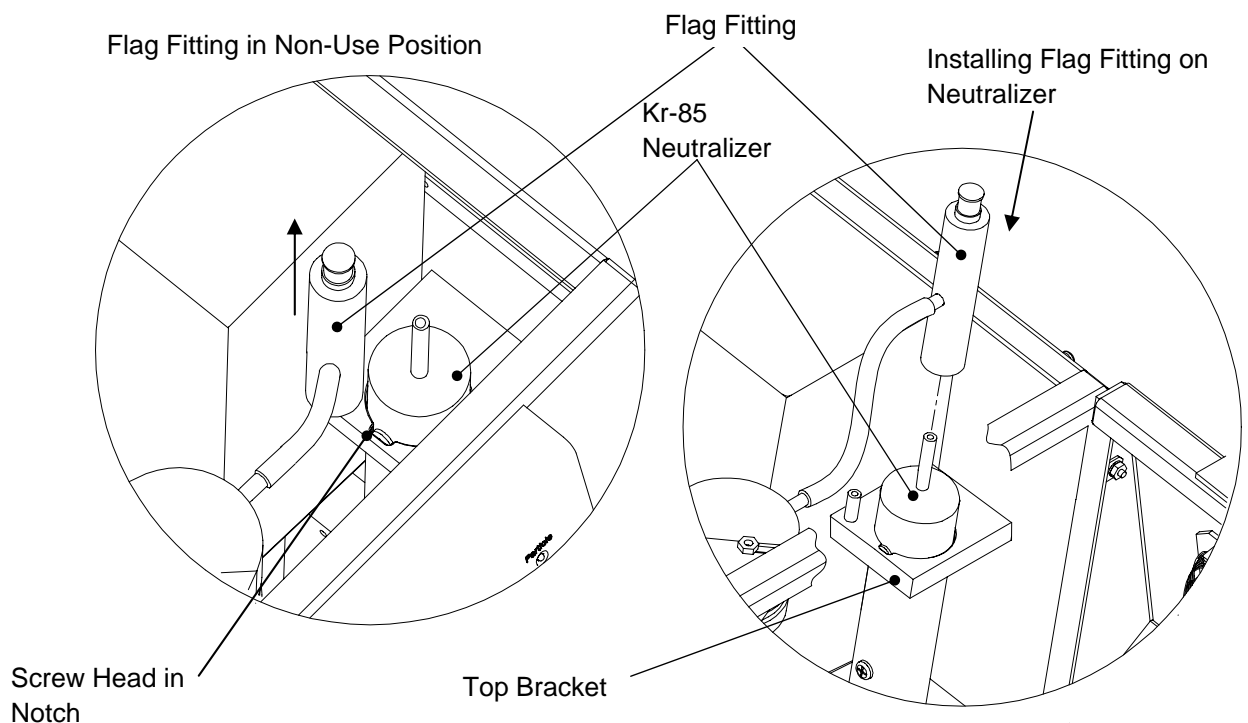

Figure 4-1
Find your Model 3077/3077A Neutralizer and remove the plastic end caps (refer to Figure 4-1).
3. Remove the flag fitting from its mounting support by lifting up, and push the flag fitting over the Neutralizer tube as shown in Figure 4.1. Push the flag fitting down fully.